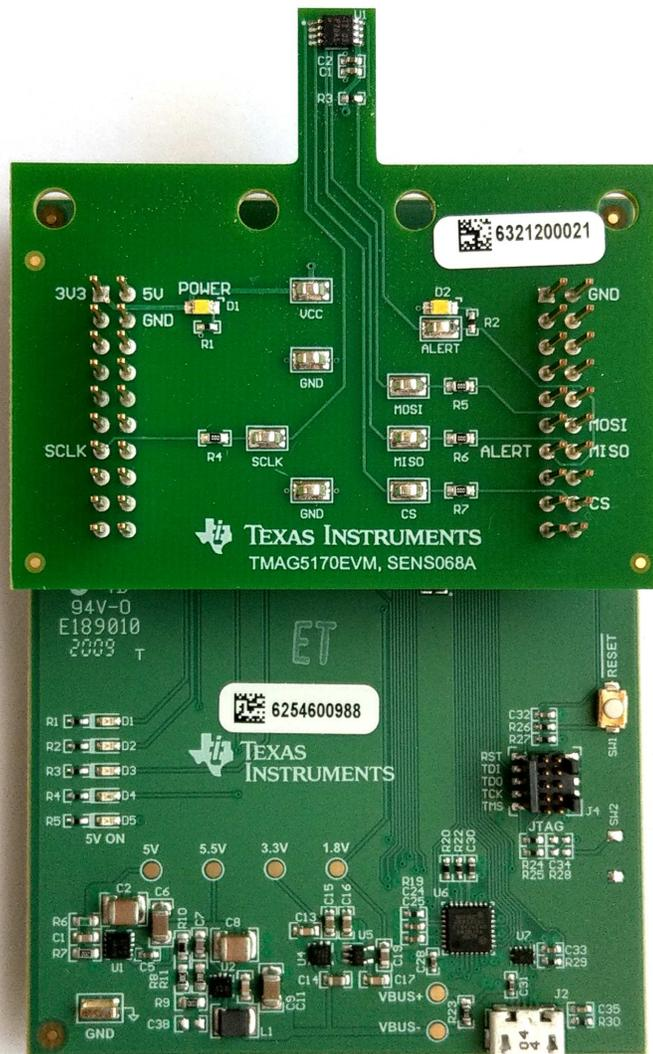

Figure 1. EVM on PAMB Controller
- Step 2. Attach the EVM to the PAMB Controller as shown in Figure 1.
To use the EVM with the included PAMB Controller, connect the EVM as shown in Figure 1.